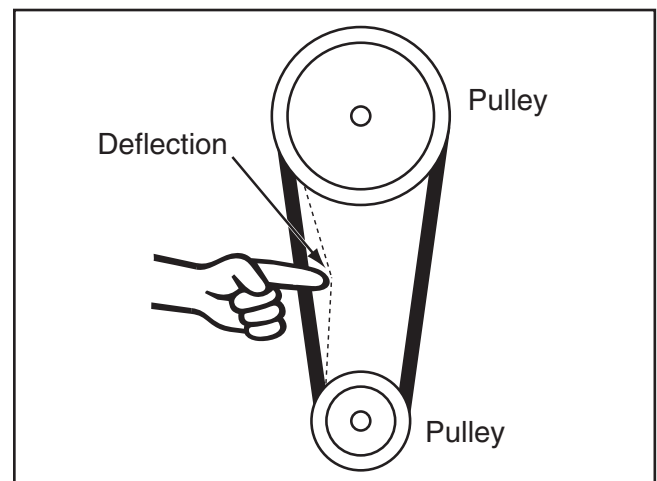

Figure 42. Checking for correct V-belt tension.
4. Push the center of each V-belt as illustrated in **Figure 42**, using moderate force. When tensioned correctly, the deflection should be about $\frac{3}{4}$ ".